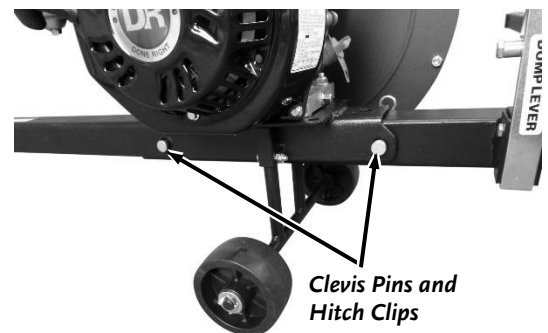

Figure 14
- Lift the Rear Frame and Power Unit to align the two sets of side holes and insert a 1/2" X 3.5" Clevis Pin into each (**Figure 14**).